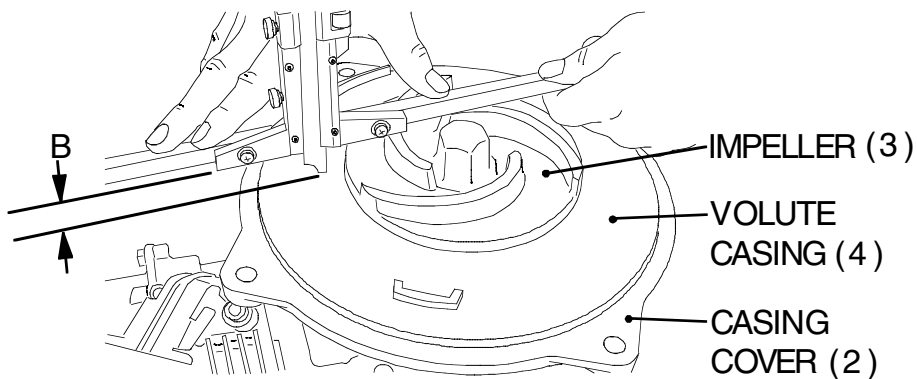

Figure 4-7: Measuring Impeller Depth
- (b) Refer to Figures 4-7. Measure and record dimension B.
- (c) Subtract dimension B from dimension A. The resultant dimension is the thickness of the shim (31).